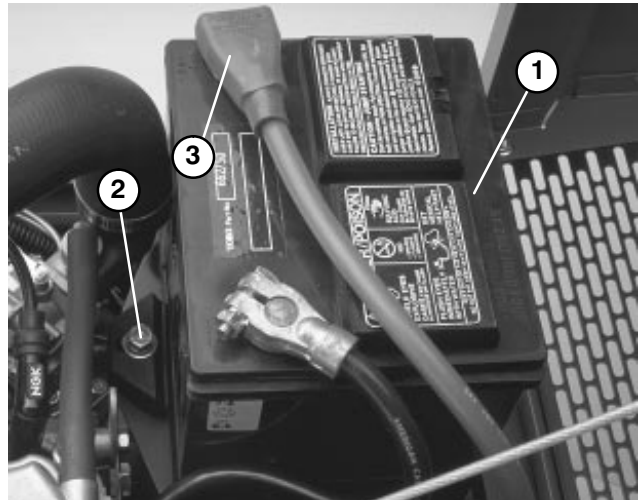

Figure 9
1. Lift engine cover. Check to see that the battery is securely fastened in place (Fig. 9).